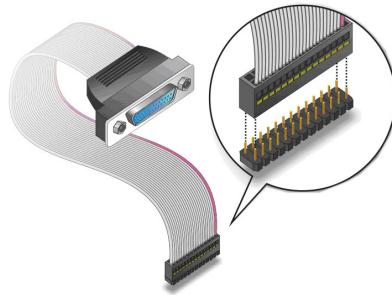

Figure 5-20: LPT Cable Connection
Step 2: **Align the connectors.** Correctly align pin 1 on the cable connector with pin 1 on the PCIE-9452 LPT box-header connector. See Figure 5-20.
Step 3: Insert the cable connectors Once the cable connector is properly aligned with the 26-pin box-header connector on the PCIE-9452, connect the cable connector to the on-board connector. See **Figure 5-20**.